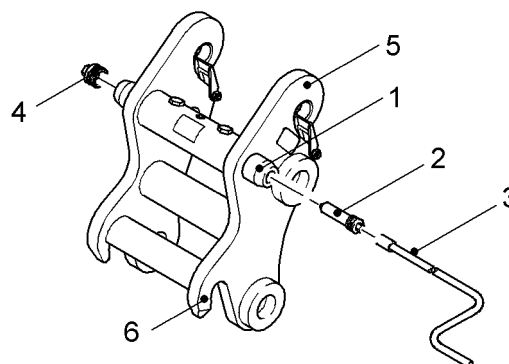

Fig. 3-94 Mechanical quick-change adapter
- ▶ Approach the quick-change adapter from the side and unscrew the locking screw **2** using the crank **3** from the locking pin **1** (siehe Fig. 3-94).